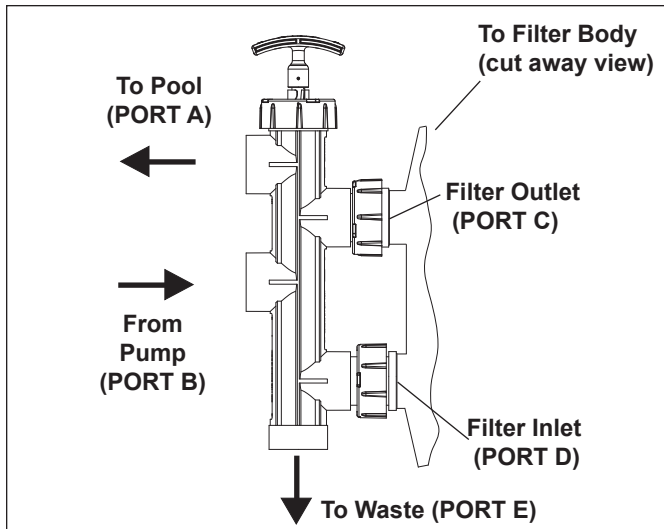

Figure 3. SVLV8 Installed on Jandy DEL48 or (DEL60)
5. Hold the Slide Valve upright and place onto the filter bulkheads. See Figure 3.